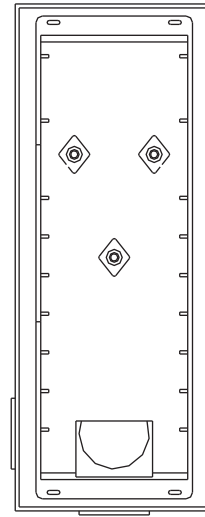

Figure 2
- 2) Place the plastic backbox into the metal backbox so that the back of the plastic backbox sits flush against the metal backbox (**Figure 2**).